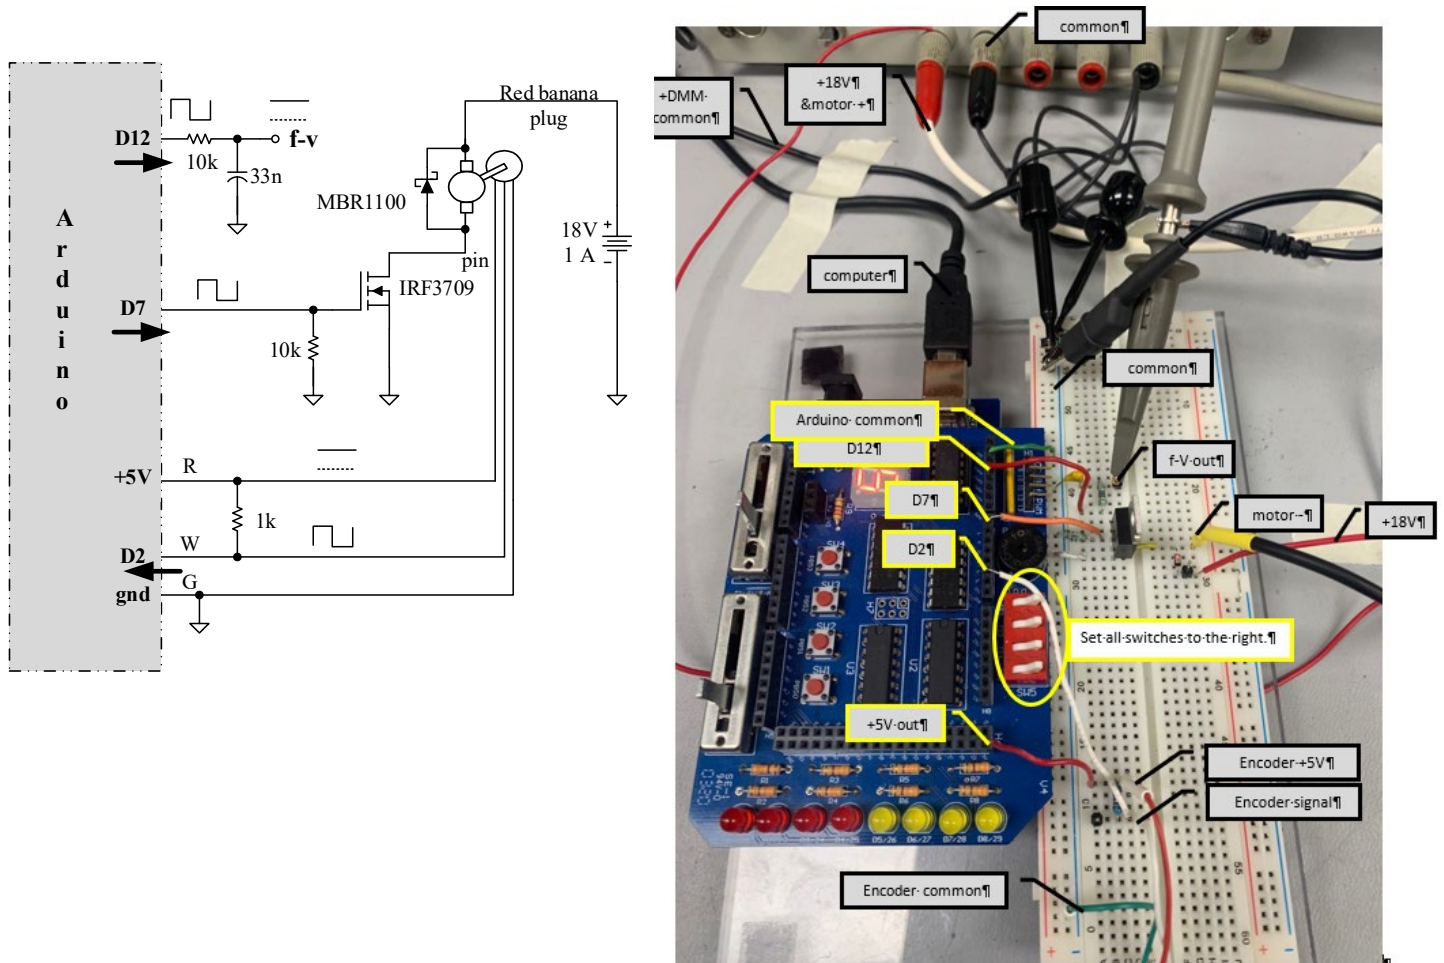

Figure 4 Hardware and instrument connections
- f. Connect the rest of the hardware as shown in Figure 4, *in this order*: